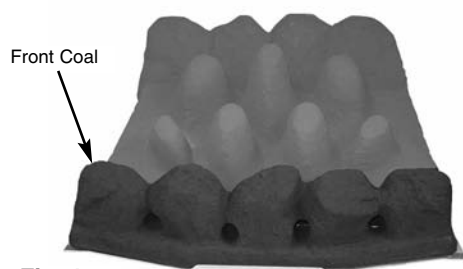

Fig. 15
3. Position the front coal on the front ceramic retainer, making sure that the back edge is pushed up against the front of the burner strip (Fig. 15).